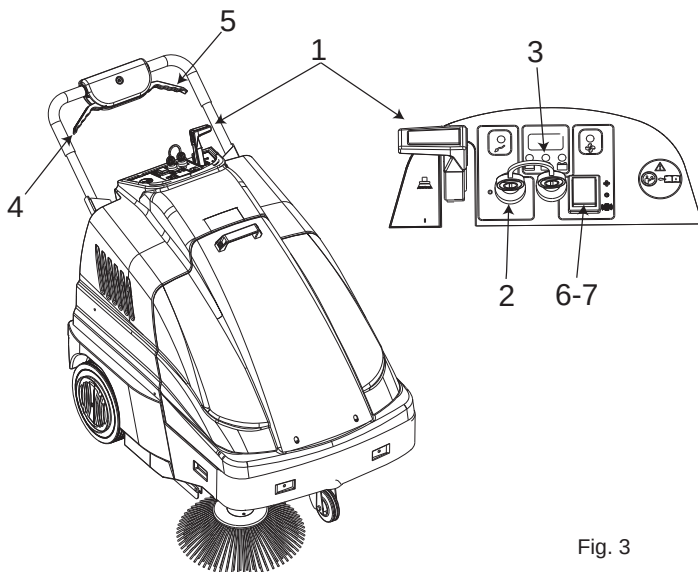

Fig. 3
- Move the brush raising lever (pos. 1 Fig. 3) to the "0" position.
- Check that the side brush pos. 1 Fig 3 is in the "0" position.
- Turn the key switch to "I" position, pos. 2 Fig. 3.
- After turning the key, wait about 10 seconds until the machine starts running. Check on the indicator pos. 3 Fig. 3 that the battery is fully charged before starting work, otherwise charge the battery.
- Activate the suction motor by moving the switch in pos. 7 Fig. 3 to "I".
Turn off the suction motor when using the machine when being moved by moving the switch in pos. 7 Fig. 3 to "0".
- Pull the drive lever pos. 4 Fig. 3 and carry out the cleaning operations. If necessary, operate the lever pos. 1 Fig. 3, moving it to position "I" to engage the side brush. After having finished work, move the side brush lever, if used, to position "0", switch the machine off and remove the keys from the control panel.
Battery life depends on routine maintenance and the level of discharge. Do not let the battery charge fall below the limit indicated by the lights in pos. 3 Fig. 3.